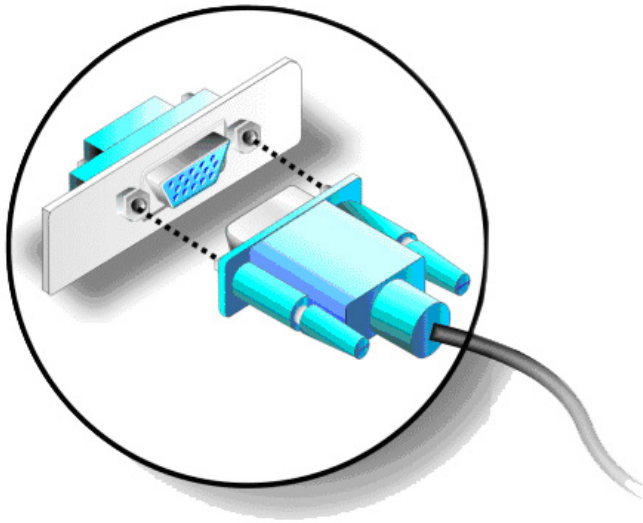

Figure 5-23: VGA Connector
Step 3: Insert the VGA connector Once the connectors are properly aligned with the insert the male connector from the VGA screen into the female connector on the 2807940. See **Figure 5-23**.